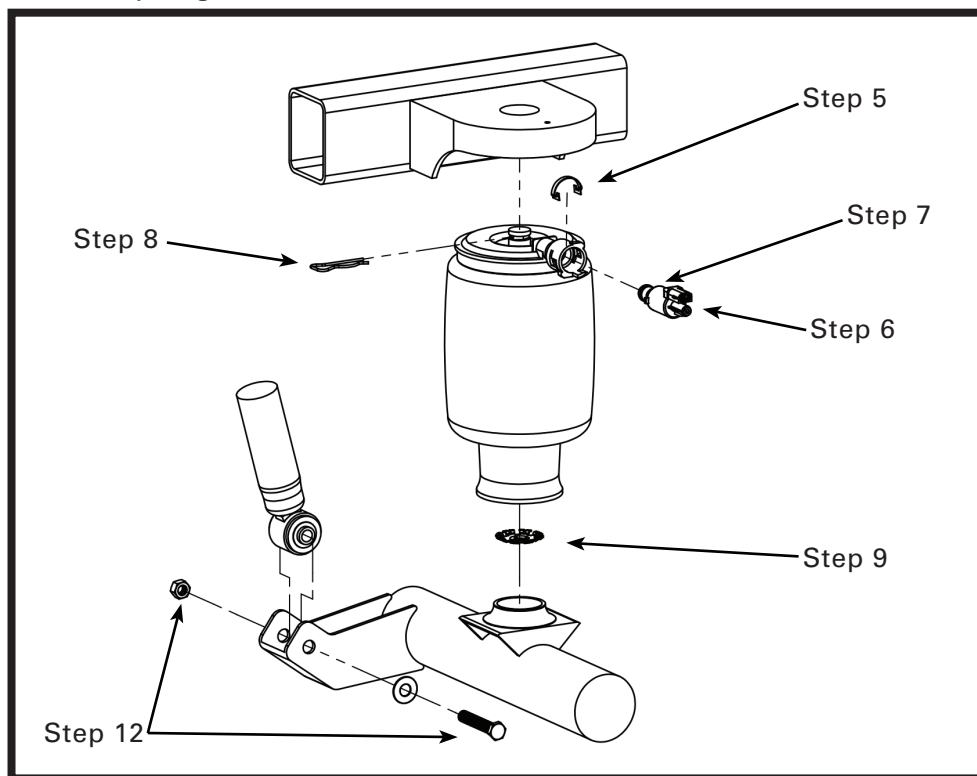

FIGURE 10-2
5. Remove air spring solenoid retaining clip. (FIGURE 10-2)
6. Remove electrical connector and air line from air spring solenoid valve. (FIGURE 10-2)
7. Rotate solenoid counter-clockwise to the first stop, and then carefully pull out to vent the air pressure from the air spring. After air spring is deflated, turn again and completely remove solenoid from air spring. (FIGURE 10-2)